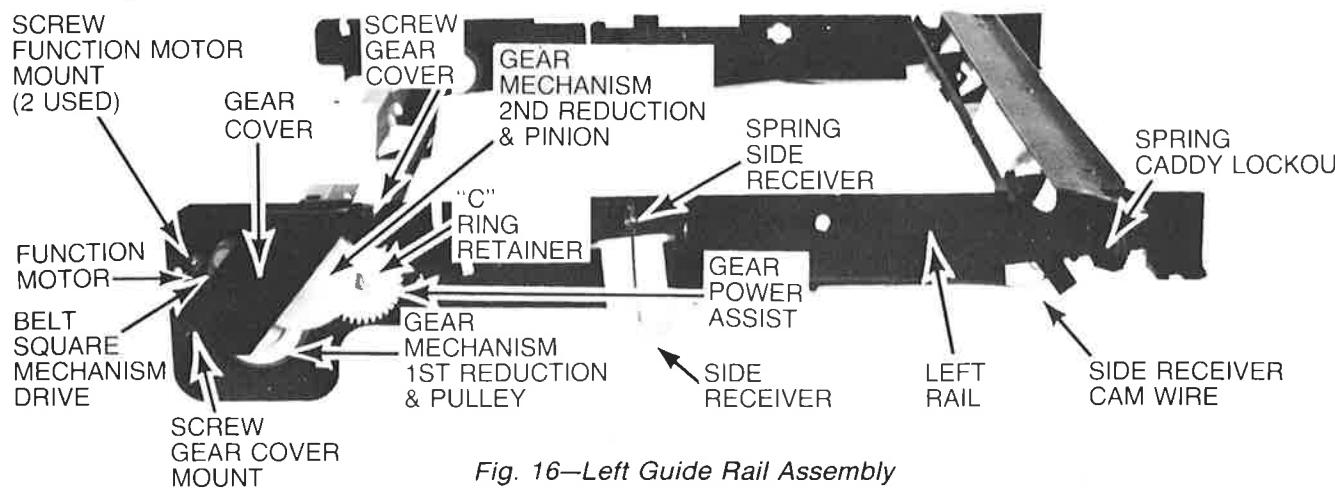
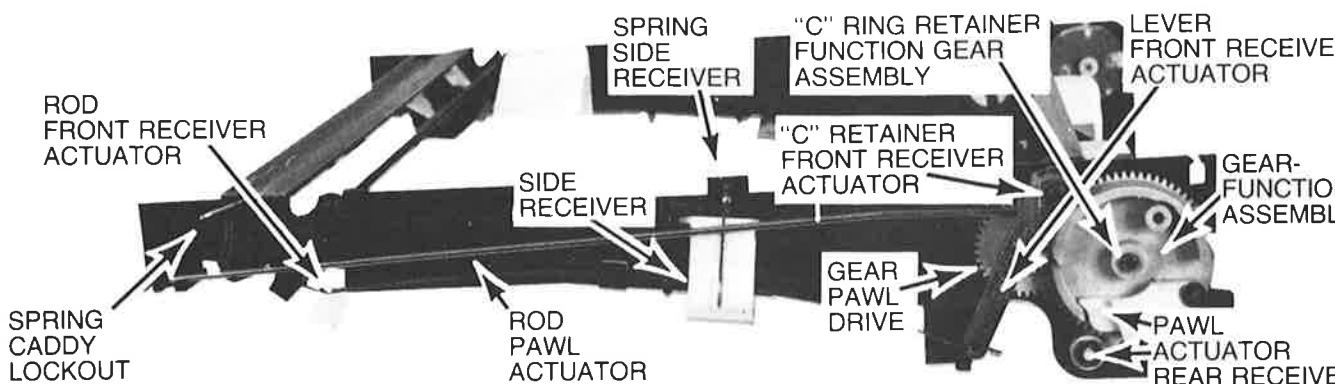

Fig. 16—Left Guide Rail Assembly
Fig. 17—Right Guide Rail Assembly
2. Remove two (2) posi-drive (+ head) screws and remove gear cover Fig. 16.
3. Remove square drive belt Fig. 16.
4. Remove two (2) small posi-drive (+ head) screws and remove function motor.
1. With guide rail assembly removed from player—remove retaining rings from function gear and receiver actuator (Fig. 17).
2. Release front receiver activating rod (Fig. 17) held captive by plastic tab on right rail assembly.
- Remove receiver actuator rod (Fig. 17) from right rail assembly and side receiver wire cam (Fig. 16) from left rail.
- Remove retaining ring holding pawl drive gear (Fig. 17) captive—remove pawl drive gear.
- Remove retaining ring holding the power assist gear (Fig. 17) captive. Remove power assist gear.
- Remove lock out springs (Figs. 16 & 17) right and left sides. Remove caddy lockouts (Figs. 16 & 17).
- With cabinet top, receiver spindle assembly and guide rail bracket removed—use thumb to rotate mechanism drive 2nd reduction gear (Fig. 16) in direction necessary to place mechanism in "PLAY" mode while holding AC switch (S2) actuator (Item 47, Fig. 47) back out of the way.